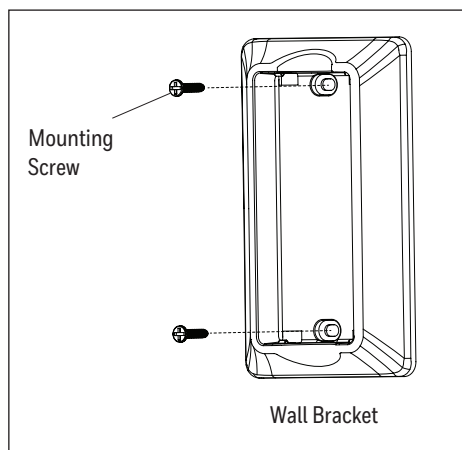

Figure 6.2
2. If desired, the wall bracket in remote pack can be installed to a wall using the provided mounting screws. The remote can be stored in the wall bracket for easy access (Figure 6.2).